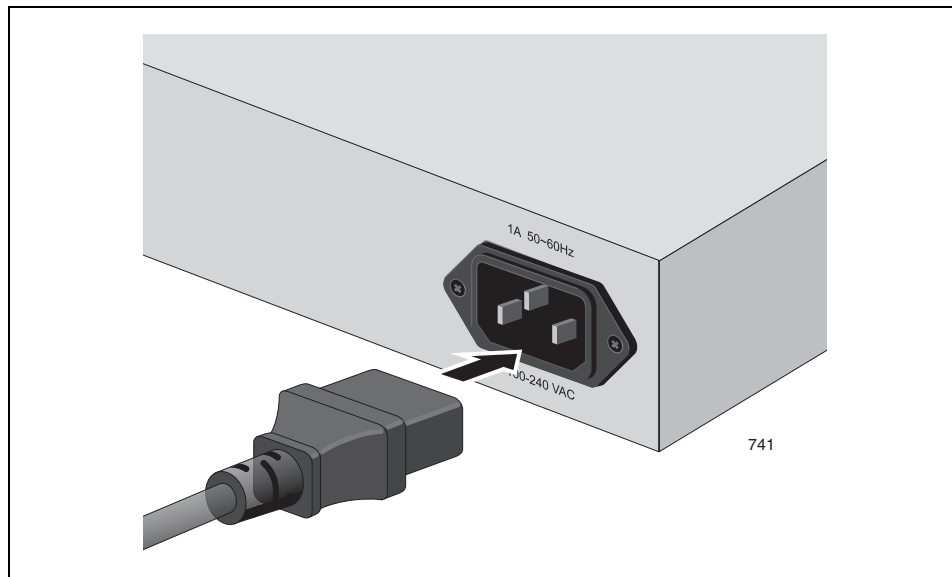

Figure 14. Plugging in the AC Power Cord
1. Plug the power cord into the AC power connector on the back of the switch, as shown in Figure 14.